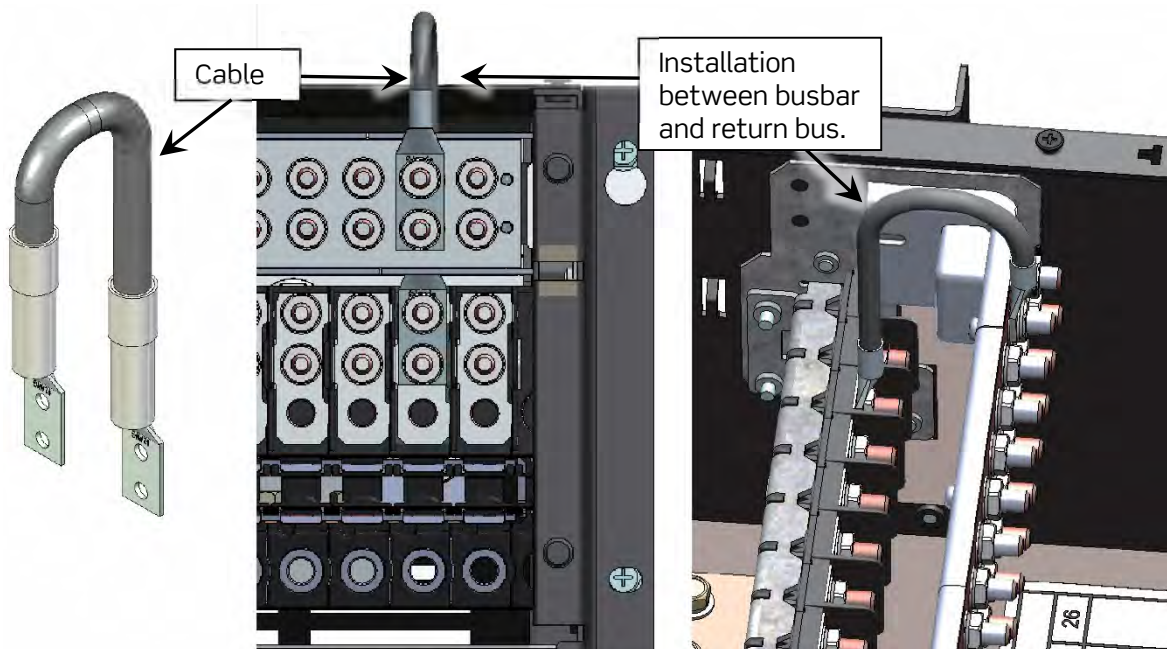
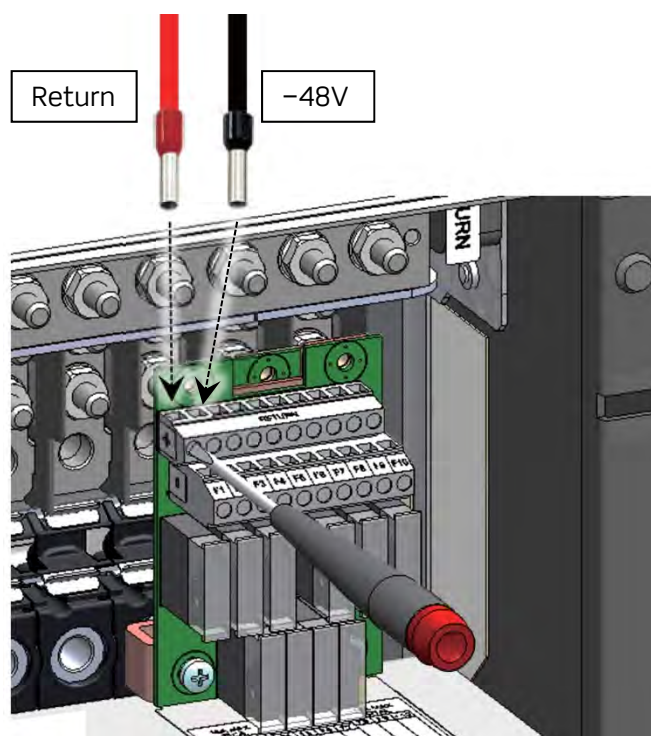

Figure 47 - GMT Fuse Kit Cable Connection
Figure 48 - GMT Fuse Module Load Wires
8. If installing a GMT fuse kit, follow details provided in the instruction guide that accompanies the fuse kit. Fuse kit installation consists of two basic steps: (1) installing the cable between the bus bar and the return bus (Figure 47), and (2) installing load wires (Figure 48).